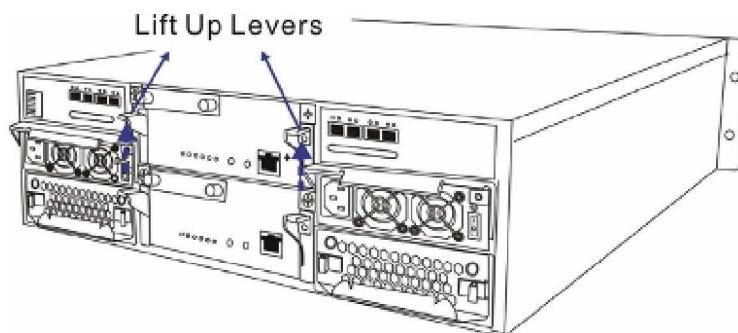

Figure 5-5: Lifting the Controller Module Latches Upward
-  **Step 4.** *Reposition the controller module.* Once fully inserted, lift up the levers at the back of the controller module. This will set the controller module in the correct position. (See *Figure 5-5*)